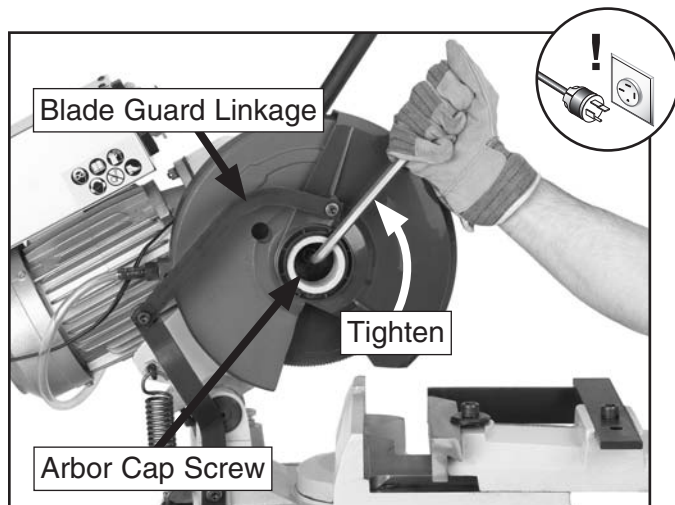

Figure 46. Tightening blade.
7. Place the blade and flange over the arbor, then thread and tighten the left-hand thread arbor cap screw (**Figure 46**).